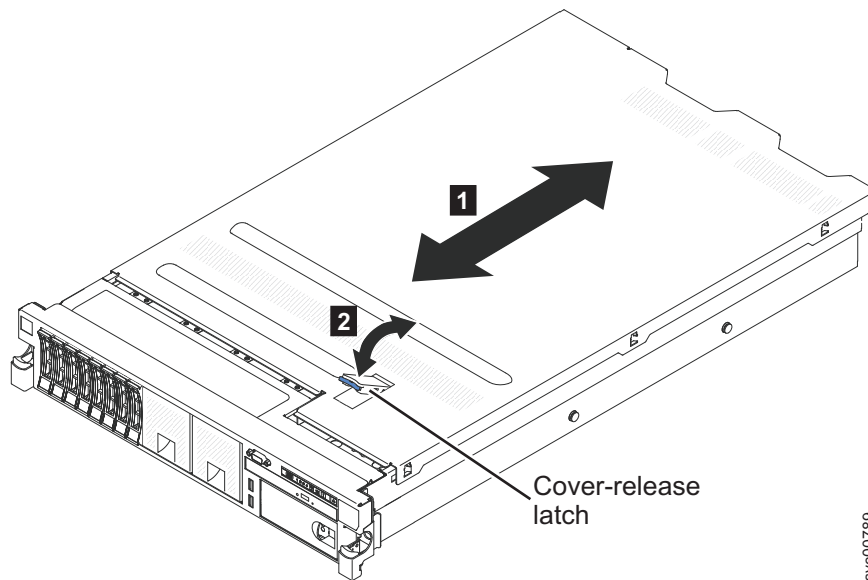

Figure 53. Removing the 2145-DH8 cover
5. Slide the cover toward the rear of the node and remove, as shown in Figure 53 on page 69.